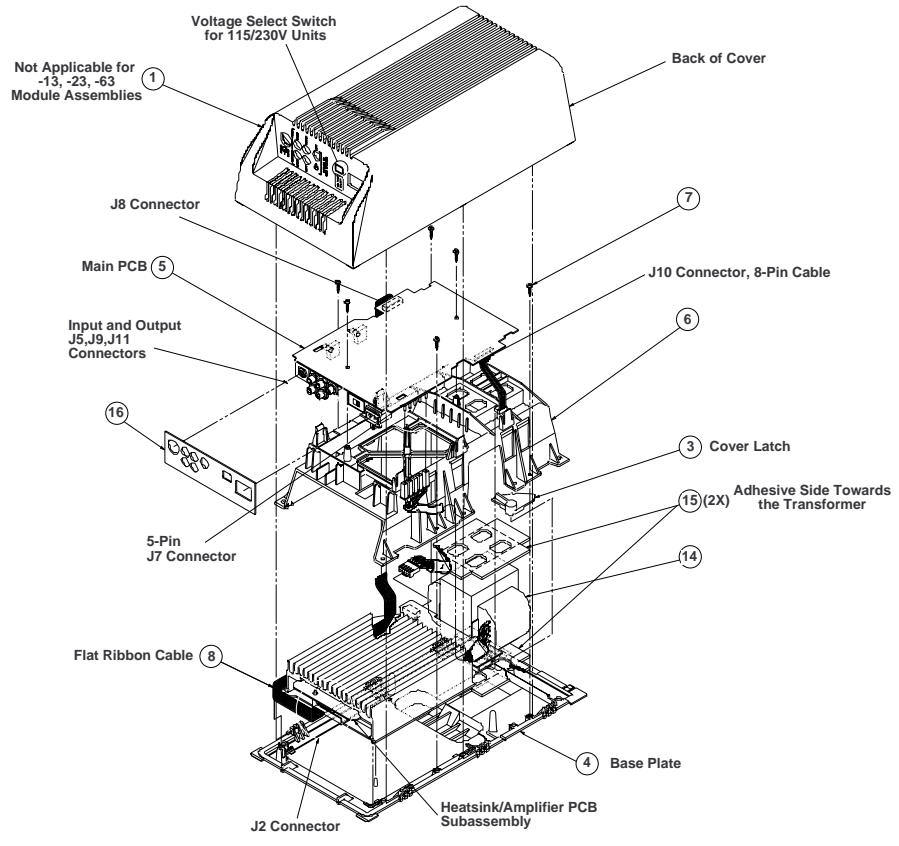

Figure 16. Module Assembly Exploded View
2.3 Slide the cover over the base-plate (4) (refer to Figure 16.) until the back of the cover snaps over the base-plate tabs. Refer to Figures 12 and 13.